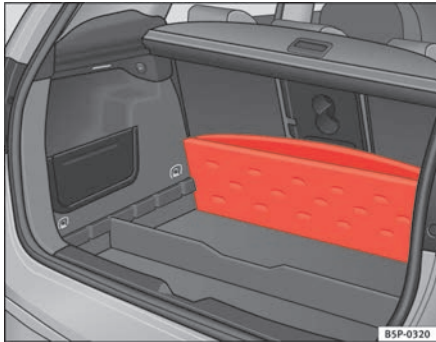

Fig. 106 Variable floor boot stowage compartment
- Lift the luggage compartment floor and fold it back all the way ⇒ fig. 106.